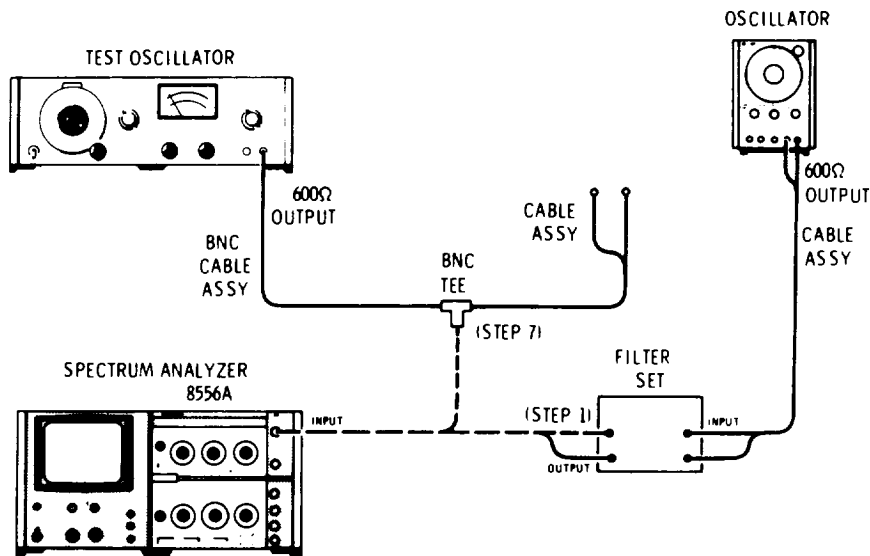

Figure 4-7. Spurious Responses Test Setup
1. Connect Oscillator through Filter Set to analyzer INPUT as shown in Figure 4-7.